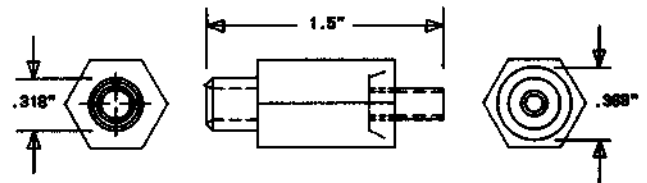

Fig. 30—KS-21873, L2, Inserting Guide Bushing Tool
2.32 KS-21873, L2: The KS-21873, L2, inserting guide bushing tool (Fig. 30) is used with the 358-type coaxial plugs.